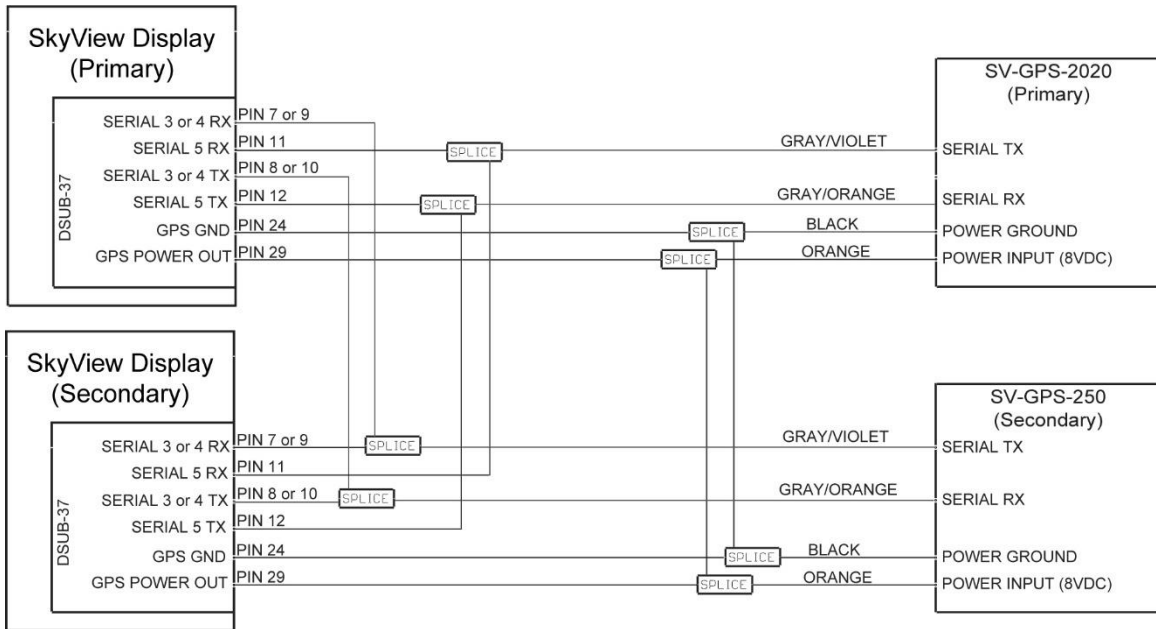

Figure 124 – SV-GPS-2020 and SV-GPS-250 Connected to Multiple Displays (not applicable to SkyView SE)
If your installation has two or more displays and more than one SV-GPS-250/2020 (including one SV-GPS-250 and one SV-GPS-2020, all four wires of the SV-GPS-250 and/or SV-GPS-2020 must be connected to the *primary and secondary displays*, as shown in Figure 124). Note that secondary SV-GPS-250's transmit (TX) and receive (RX) wires are connected to another serial port, preferably port 3 or 4.
The following configuration uses Serial Port 4 for the (secondary) SV-GPS-250 as shown in Figure 124 – SV-GPS-2020 and SV-GPS-250 Connected to Multiple Displays. As explained there, use of Serial Port 4 for the SV-GPS-250 (secondary GPS) is for illustration only. Serial Port 1, 2, 3, or 4 (if available) may be used for the SV-GPS-250 (secondary GPS).